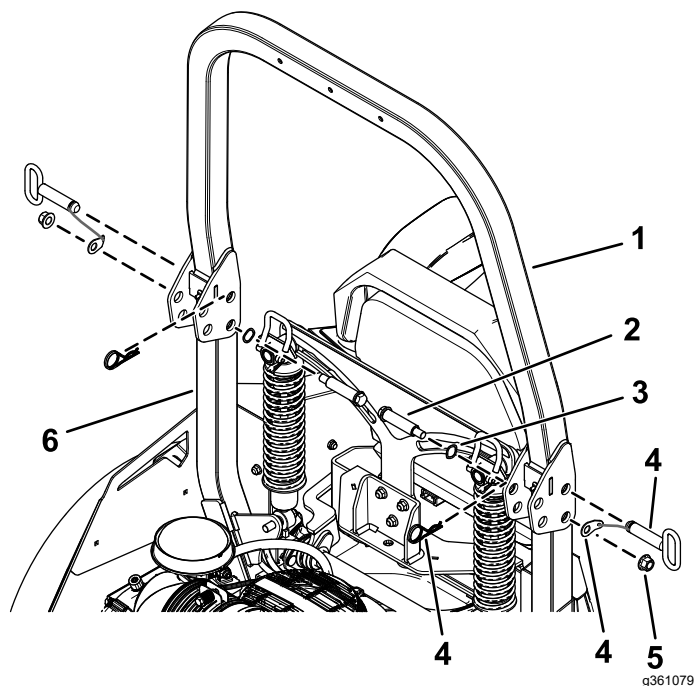

**Figure 3**
- Loosely secure the lower roll bar assemblies onto the mower using 2 hex-head bolts (1/2 x 3-1/4 inches), 2 spring washers, and 2 locknuts (1/2 inch) on each side (Figure 3).